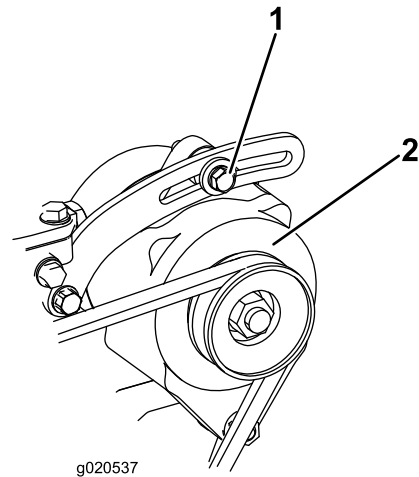

Figure 66
1. If the deflection is not 10 mm (3/8 inch), loosen the alternator mounting bolts (Figure 66).